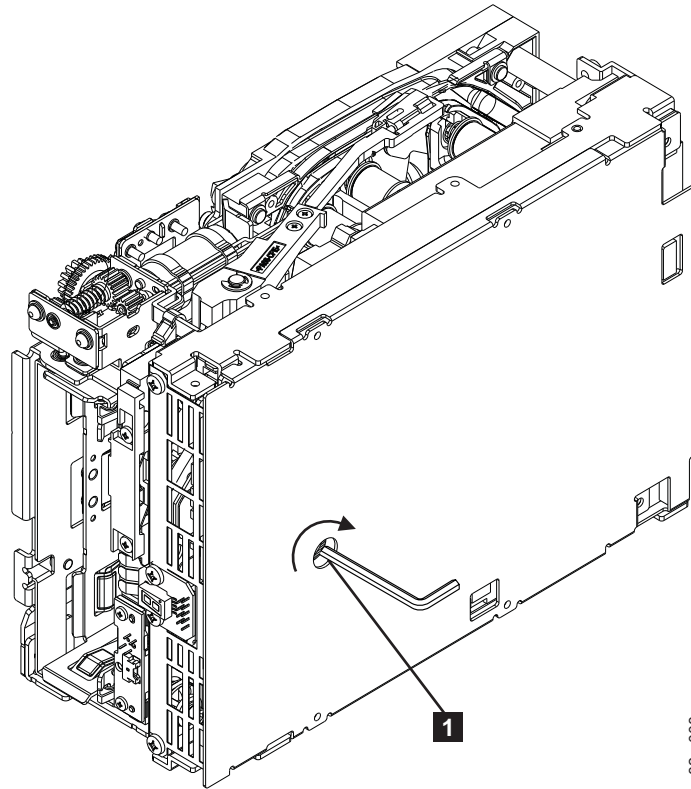

Figure 205. The hex wrench rewinds tape into cartridge
2. From the bottom of the drive, locate the access hole (**1** in Figure 205).
Note: Be sure to keep tension on the tape as the LBA is drawn into the cartridge by using a hex wrench as shown in Figure 205 on page 276.